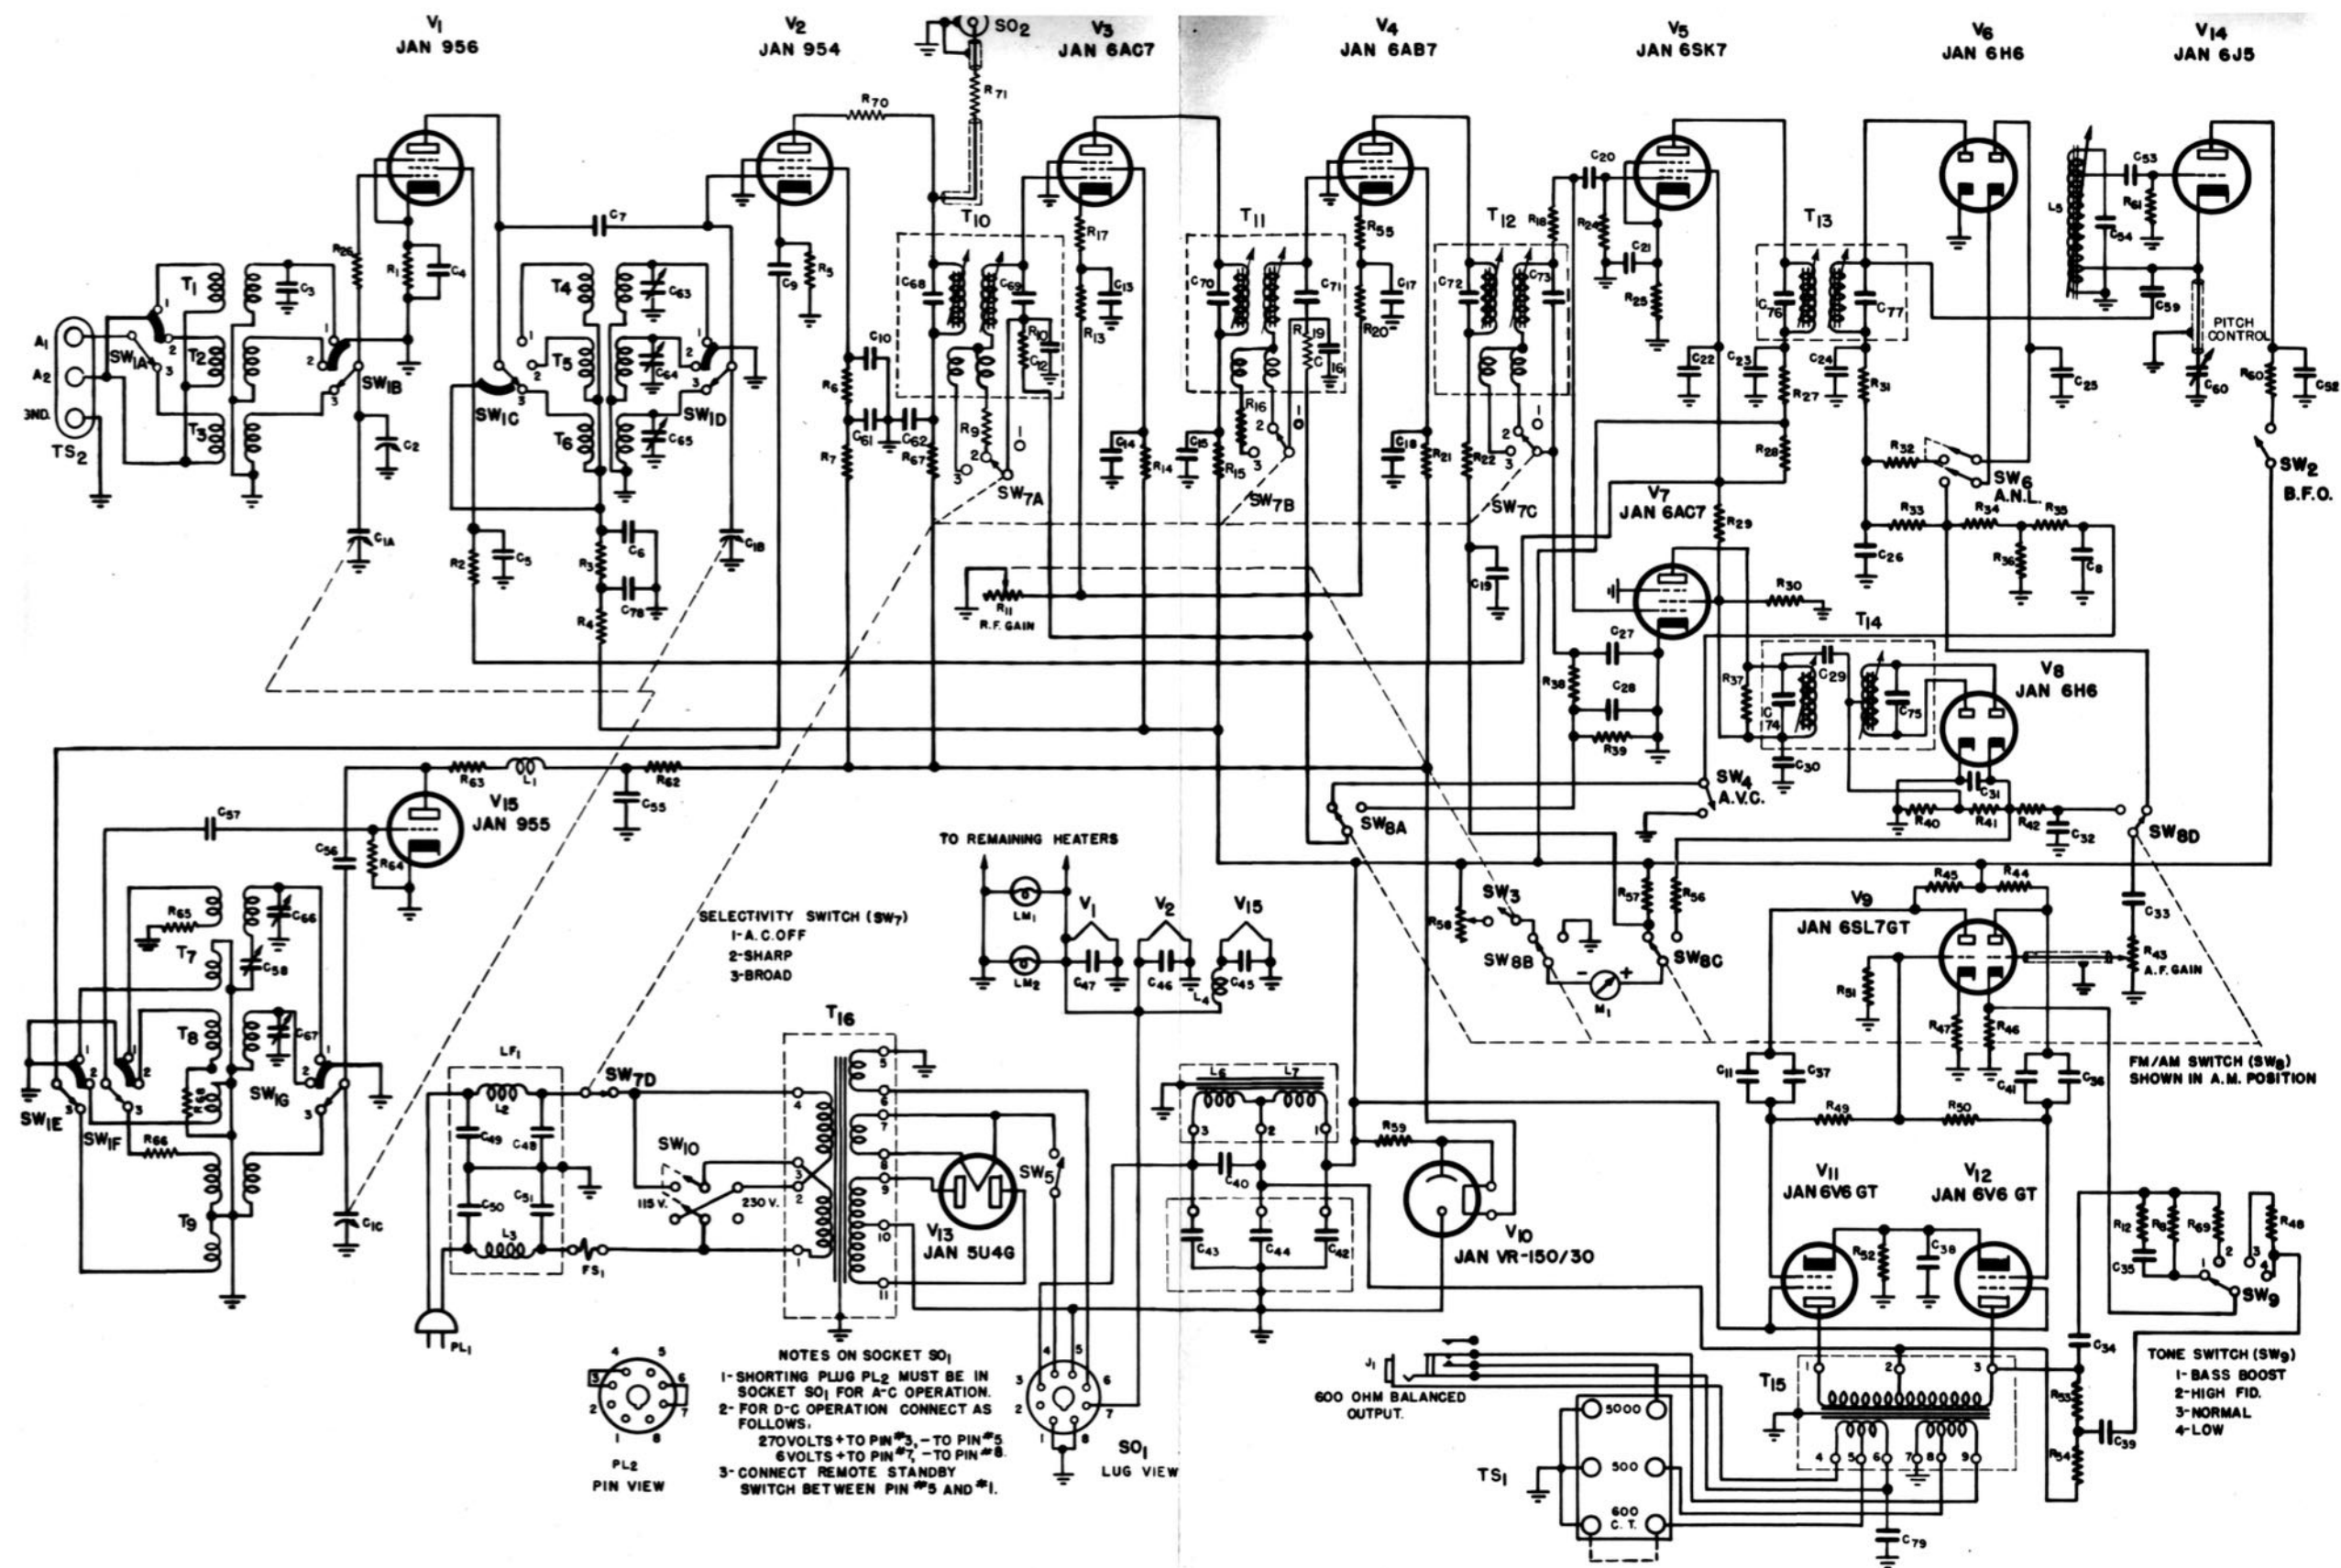

Figure 3. Radio Receiver CHL-46130-C, Schematic Diagram
A-2. RECEIVER UNIT.- Radio Receiver CHL-46130-C is a ultra-high frequency super-hetrodyne radio receiver capable of receiving both amplitude modulated (A-M) and frequency modulated (F-M) phone signals and continuous wave (C-W) telegraph signals. Automatic volume control (A-V-C) and automatic noise limiter (A-N-L) circuits are incorporated. See figure 3 for the schematic circuit diagram.
A-3. CIRCUIT DESCRIPTION.- Refer to the schematic diagram, figure 3. Since the circuit functions of bands 1, 2 and 3 are essentially identical this discussion will describe the circuit with the BAND SWITCH (SW_{1A} to SW_{1G}) set at band 3, as shown in the schematic diagram. The BAND SWITCH (SW₁) selects the proper radio frequency, converter, and high frequency oscillator transformers to tune a given frequency range.
a. A-C Operation.- If the receiver is to be operated from an a-c line, check the setting of the 115/230-volt change-over switch (SW_{10}), located on the chassis deck to the left of the power transformer, and see that it is set for the proper line voltage. Also see that the plug (PL_2) on the rear apron of the receiver is in place. This is necessary to provide continuity in the power circuits. Refer to figure 3.